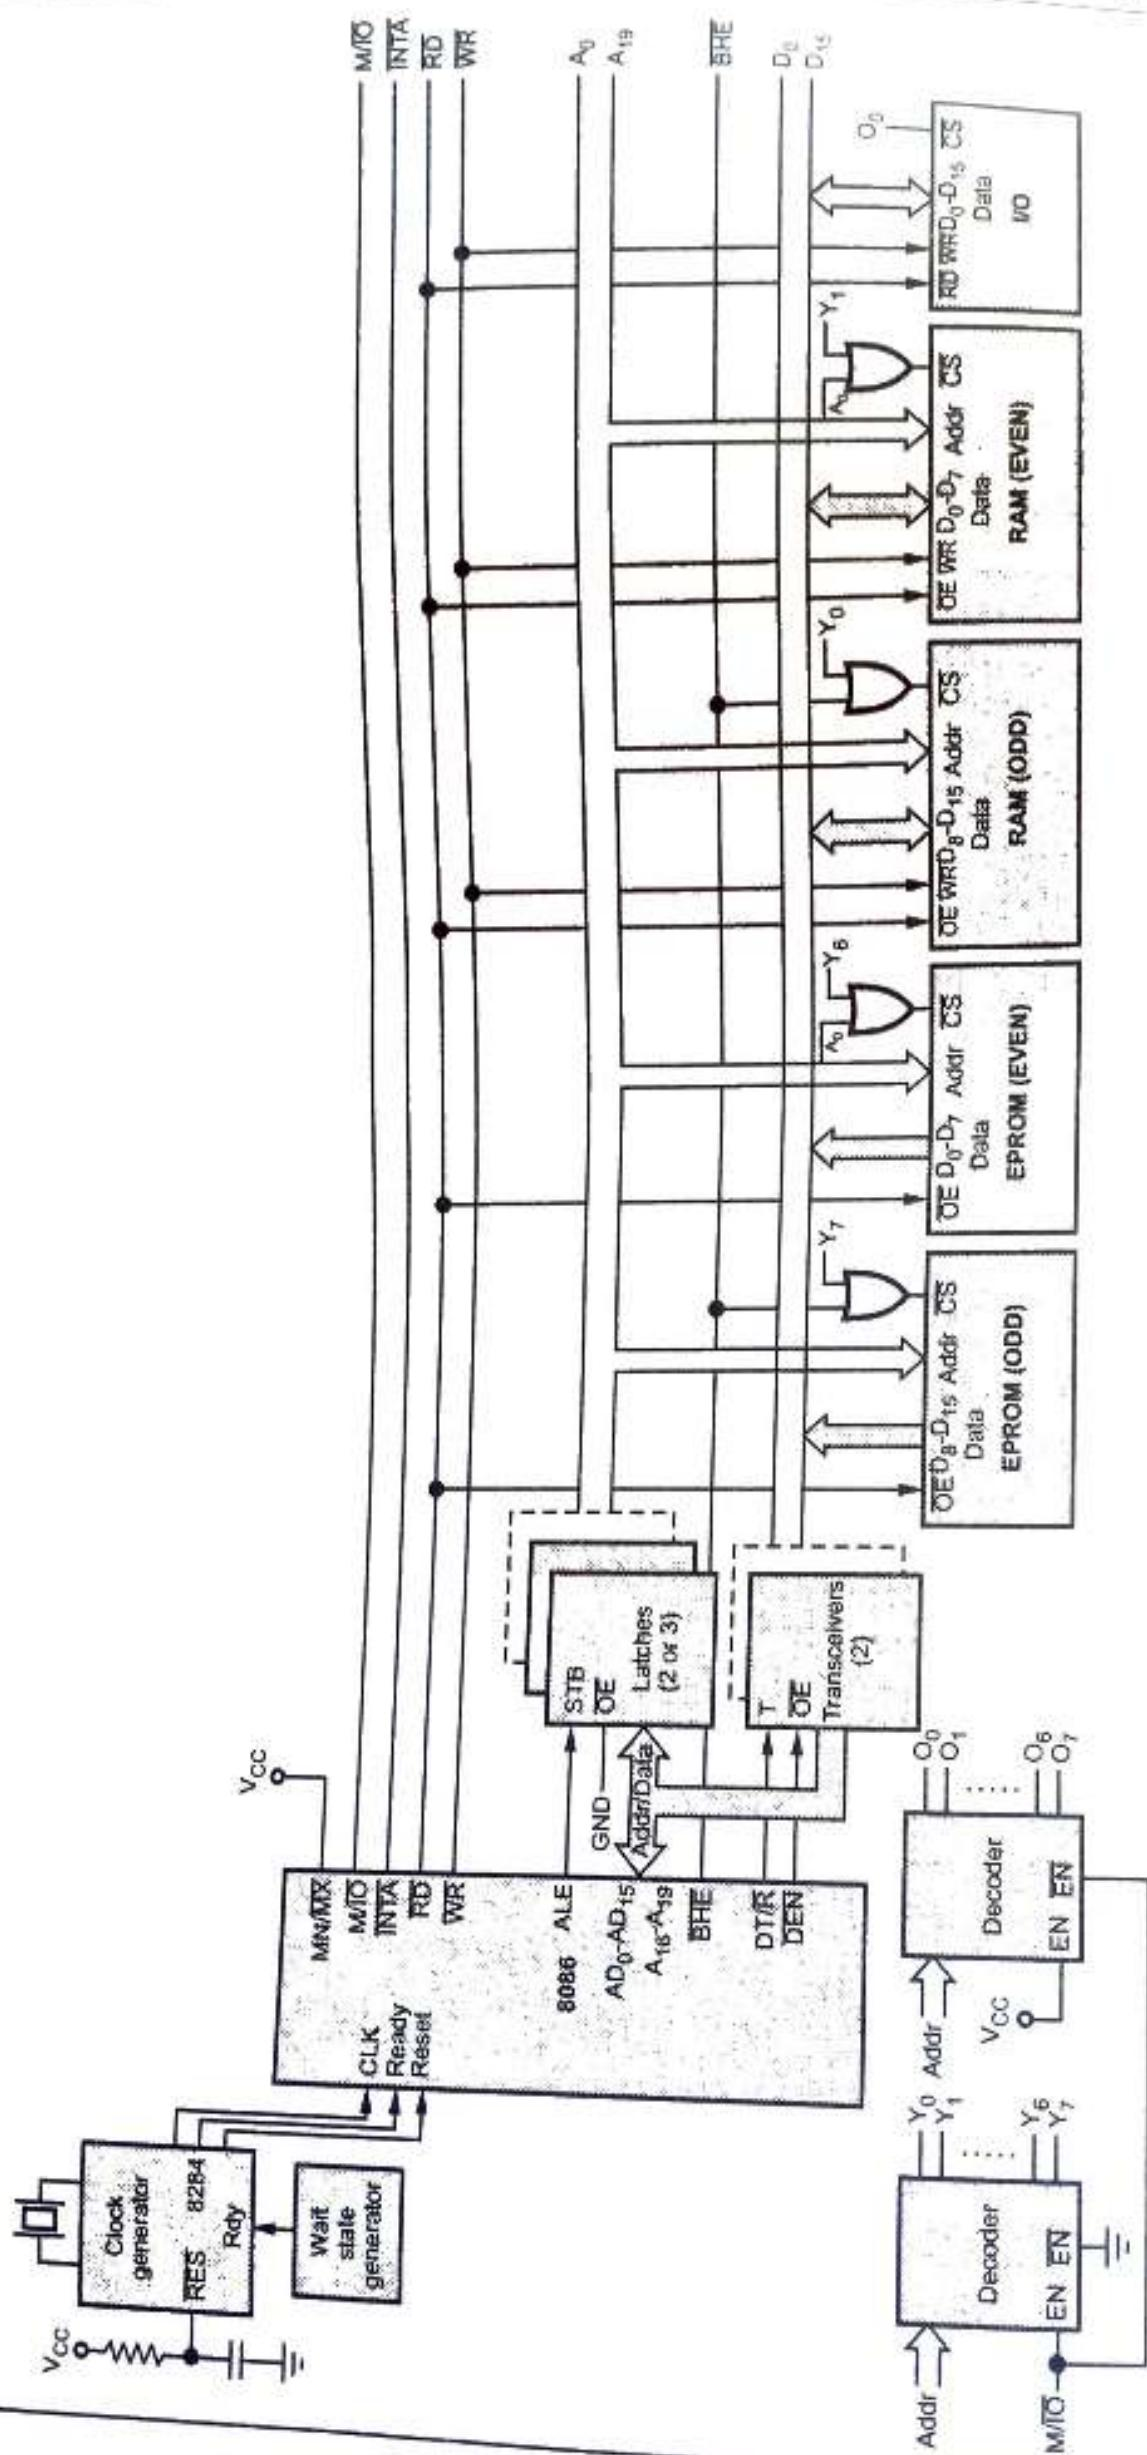

Fig. 3.2.2 Minimum mode 8086 system
- Fig. 3.2.2 shows the typical minimum mode 8086 system. Here, interfacing of memory and I/O devices are shown with the basic minimum mode 8086 configuration.
- The 16-bit I/O interface is shown in the Fig. 3.2.2. \overline{RD} and \overline{WR} signals are connected to the \overline{RD} and \overline{WR} signals of I/O device. Data lines D₁₅-D₀ are connected to the data lines of I/O device. The chip select signal for I/O device is generated using separate decoder whose output is enabled only when M/ \overline{IO} signal is low. (See Fig. 3.2.2 on next page.)